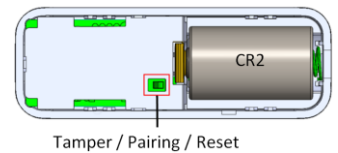

Figure 2
4. If network is not found after 90 seconds, the sensor will go into sleep mode. To wake the sensor again, you need to use magnet or tamper (Figure 2) to trigger a pairing process, and then sensor will repeat steps from 3 to 4.